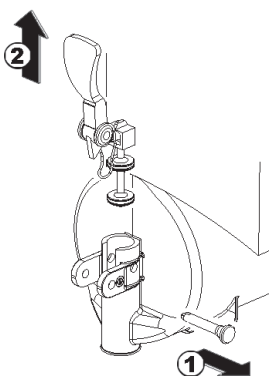

figure 11
- Dismantle the faucet assembly (see figure 11).
- Assemble the faucet by reversing the disassembly steps (see figure 11)